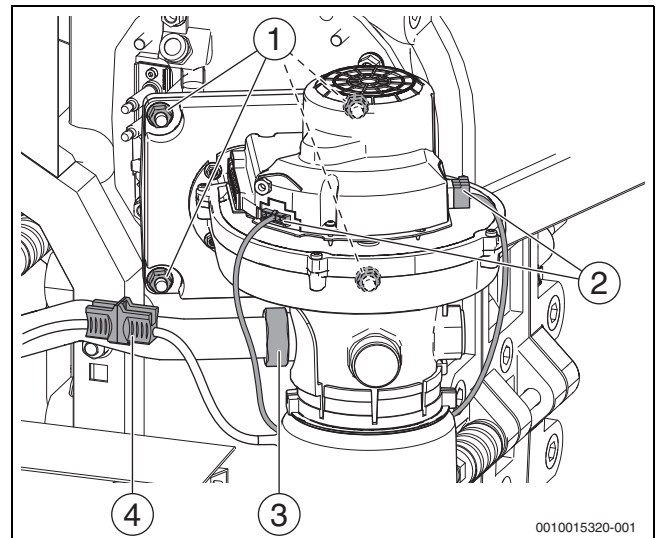
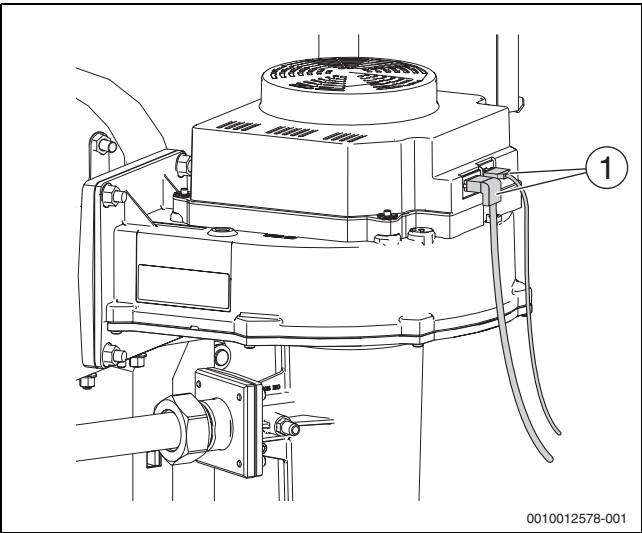

Fig. 59 Electrical connections, removing the fan (boiler rating 75-100 kW)
Fig. 60 Electrical connections on the fan (boiler rating 150-300 kW)
- ▶ Detach the electrical connections at the fan (→Fig. 59 or fig. 60).
- ▶ Disconnect the plug-in connector (→Fig. 59)
- Undo the union nut on the venturi (→Fig. 59, [3]).